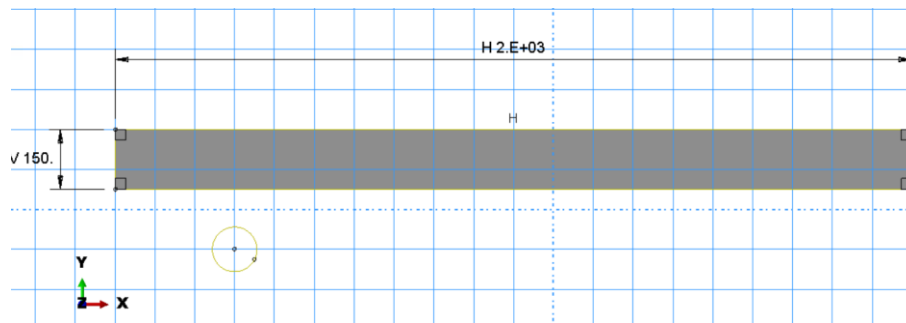

Figure 3-6 – Sketch a rough approximation of the circle.
- c. The Sketcher automatically adds the center point and perimeter point to the sketch. See Figure 3-6.